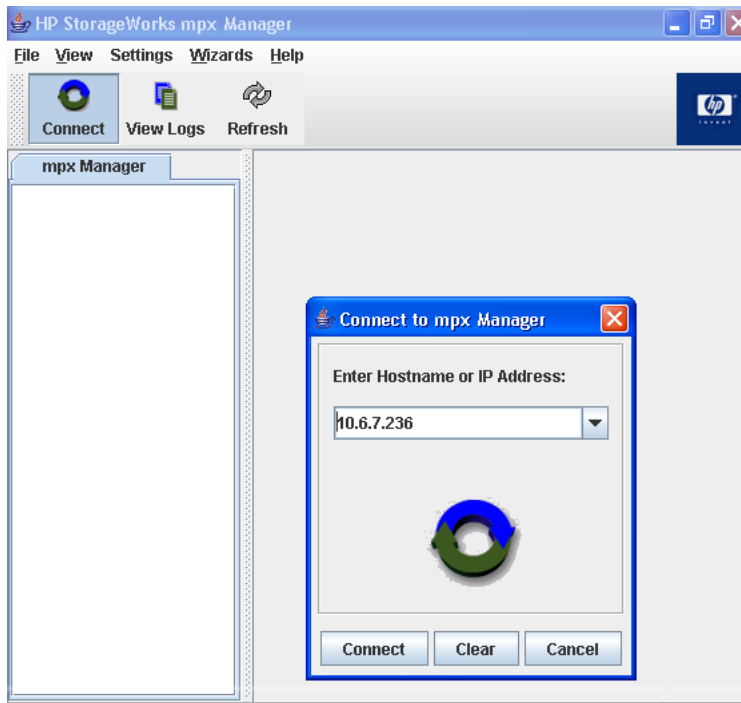

Figure 28 Connecting to an mpx110
2. Enter the mpx110 IP address and click the **Connect** button in the top left corner of the screen, see Figure 28.